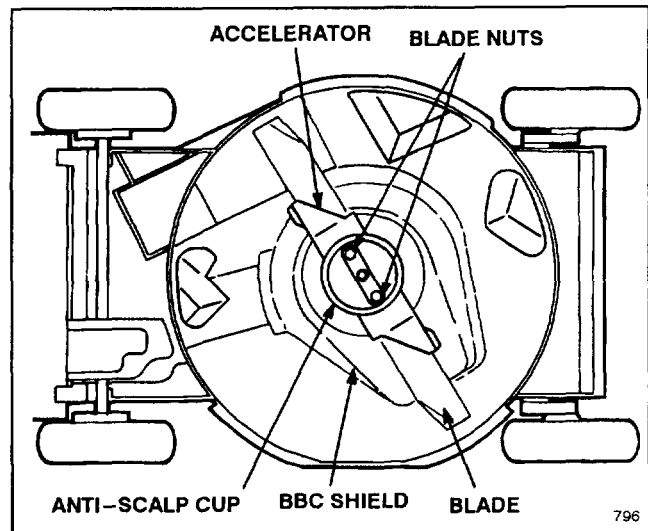

Figure 32
3. Tip mower on its left side (Fig. 32).
4. Remove (2) blade nuts, anti-scalp cup, accelerator, blade, blade spacer, and (3) bolts and washers securing BBC shield to mower deck (Fig. 32).
6. Reinstall BBC shield with (3) bolts and washers, blade spacer, blade, blade stiffener, anti-scalp cup, and (2) blade nuts.